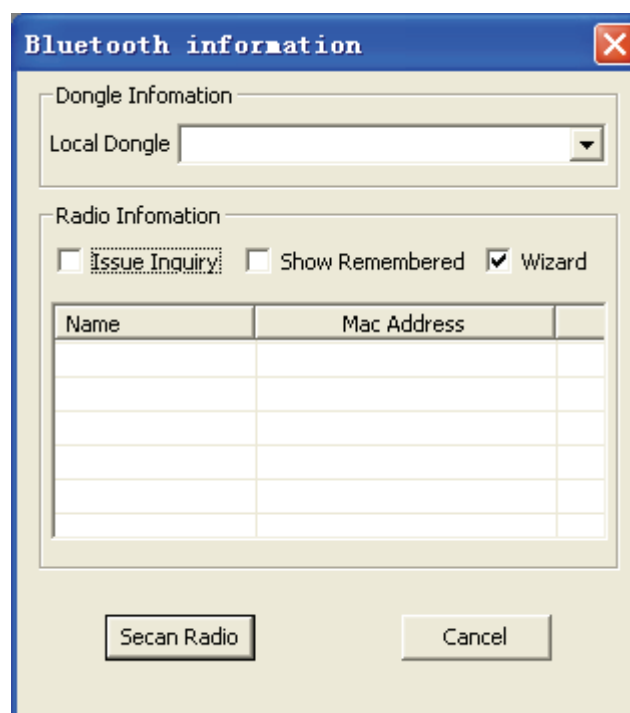

Figure 3-22
(3). Select “Wizard” in the interface as shown in Figure 3-22, the following operation refers to steps I ~ IV.
I . After choosing “Wizard”, click “Scan Radio” in figure 3-22. The following window appears.